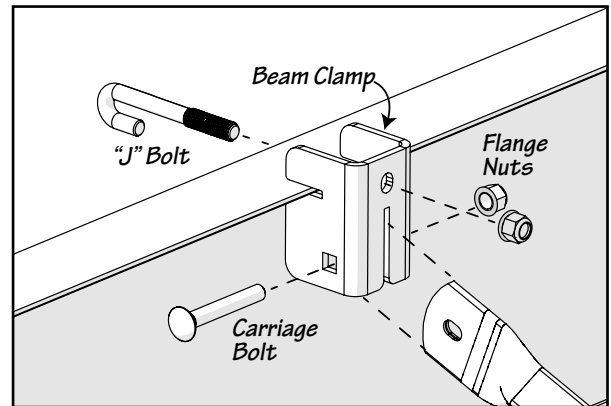

Fig. 4-3
- Slide the beam clamp over the "J" bolt end passing through the top of the beam clamp and slide the clamp over the i-beam frame as shown in Fig. 4-3. Attach flange nut over the "J" bolt and loosely tighten nut.
- Align/insert the lateral strut end in the mounting slot on the bottom of the beam clamp as shown in Fig. 4-3.